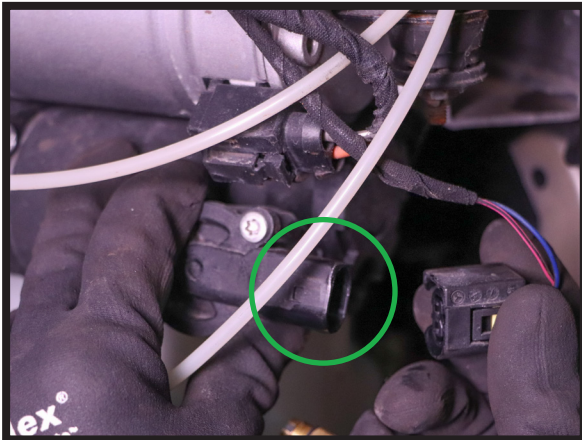

FIGURE 5
6. LOCATE AND DISCONNECT THE TWO (2) ELECTRICAL CONNECTORS FROM THE COMPRESSOR. (FIGURES 5, 6)